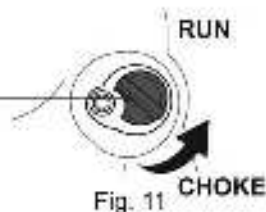

Fig. 11
- > Turn the choke anticlockwise to the position **RUN** to open the choke (Fig. 11). Move the choke to the position **RUN** for warm start and normal use.